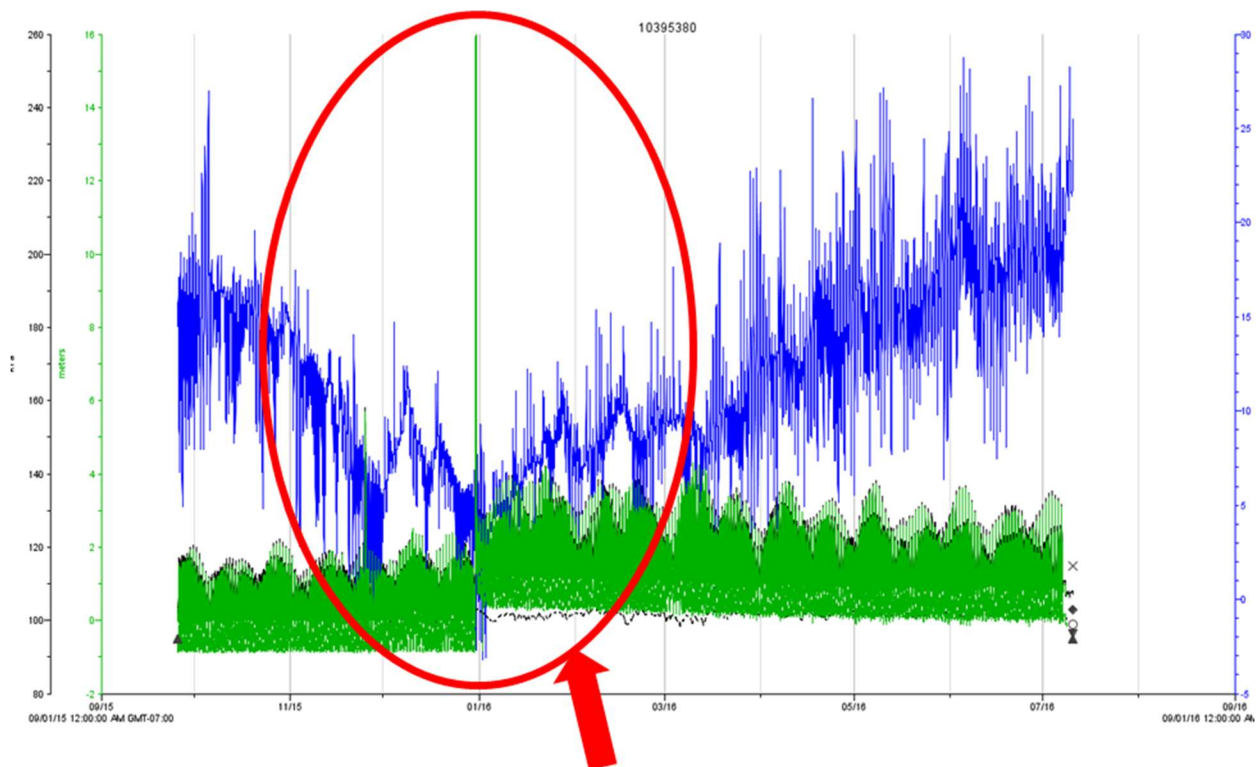

Figure 7. Error in data caused by a sensor freezing during deployment.
- During winter deployments data loggers can freeze and this can cause a systemic error to occur with the sensor depth calculations (Figure 7). If this occurs the data will need to be corrected multiple times (before and after the error occurs) using deployment and retrieval reference water levels. Then the two sets of corrected data can be joined in excel during post-processing.